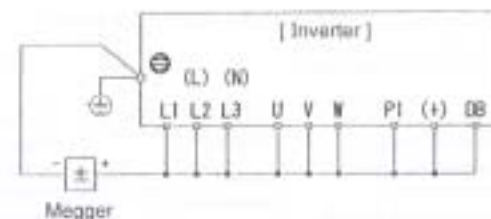

Fig.12-4-1 Megger test
(1) Main circuit
- ① Use a DC 500V megger.
- ② Disconnect all wires that are connected to terminal board of the main and control circuits and to external circuits.
- ③ Connect main circuit terminals L1, L2, L3 (L, N), P1, (+), DB, U, V and W with a common wire as shown in Fig. 12-4-1.
- ④ Carry out the megger test between the main circuit common wire and the ground terminal only.
- ⑤ The condition is normal if the megger shows a resistance of 5MΩ or more.